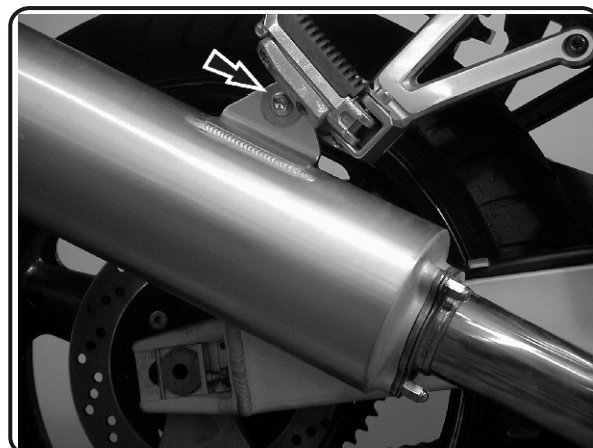

Fig. 1
- 1 Remove stock tail-pipe with muffler. (See Fig.1&2)